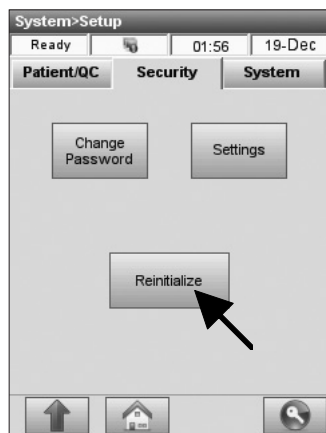

Fig. 3-60 Reinitialize
2. In the **<System Setup -> Security>** menu, press **<Reinitialize>** (Fig. 3-60).